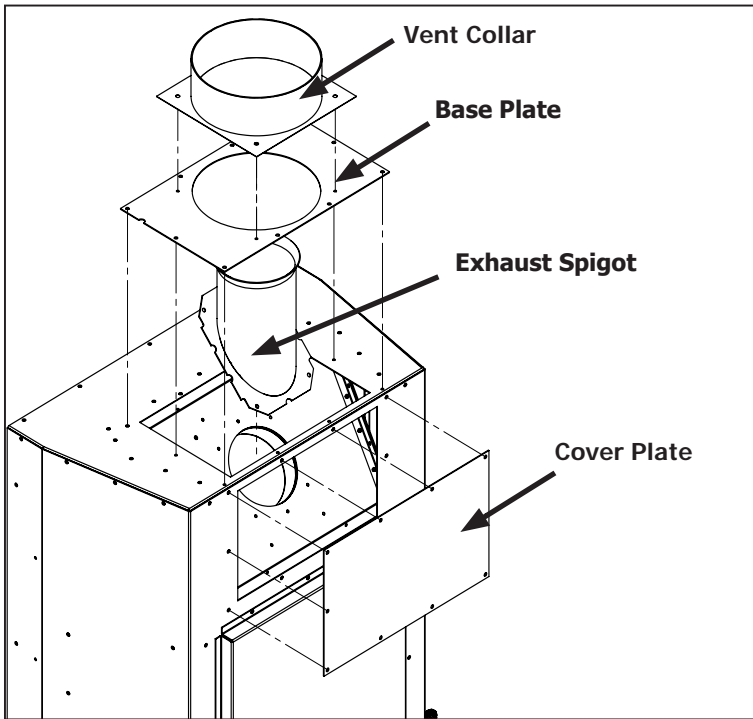

Figure 17. Vent Conversion - Step 1
Step 1: Using a T20 screwdriver remove the vent collar, base plate, cover plate and exhaust spigot (28 screws total) as shown in Figure 17.